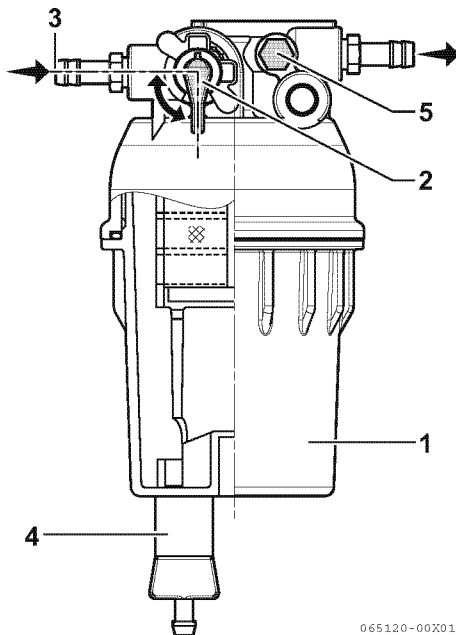

Figure 5-4
1. Position an approved container under the water separator (1, **Figure 5-4**) to collect the contaminants.
2. Close (3, **Figure 5-4**) the fuel valve (2, **Figure 5-4**).
3. Loosen the drain valve (4, **Figure 5-4**) at the bottom of the water separator. Drain any water collected inside.
If the water separator is positioned higher than the fuel level in the fuel tank, water may not drip out when the water separator drain valve is opened. If this happens, turn the air vent screw (5, **Figure 5-4**) on the top of the water separator 2 - 3 turns counterclockwise.
5. Open the fuel valve (2, **Figure 5-4**).